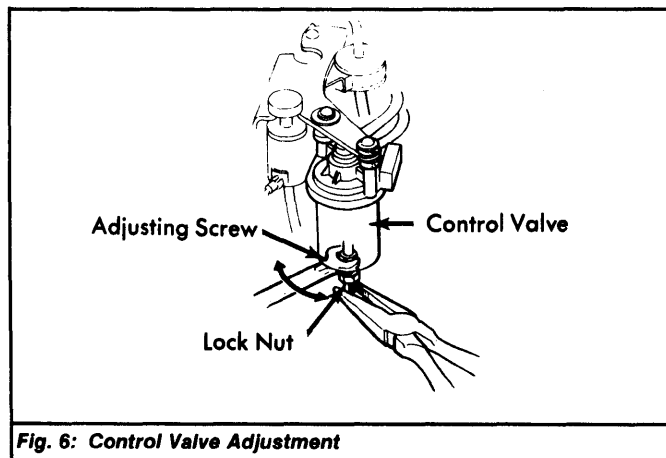

Fig. 6: Control Valve Adjustment
- 4) Increase engine speed to 3500 RPM. Release throttle suddenly. Throttle should close in 2-8 seconds. If adjustment is required, loosen control valve lock nut. Turn adjusting nut clockwise to decrease time; counterclockwise to increase time. See Fig. 6.